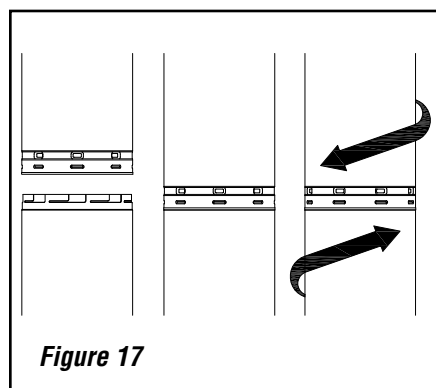

Figure 17
8" DV Lock (8DVL) direct-vent system components are unitized concentric pipe components featuring positive twist lock connections (*see Figure 17*).
Push the pipe sections completely together, then twist lock one section clockwise approximately one-quarter turn until the two sections are fully locked (*see Figure 17*). Indentations on the female end of black painted pipe and fittings will not be visible unless by examining the inside of the female ends.
Push the vent component against the previous section until it fully engages, then twist the component clockwise running the dimples down and along the incline channels until they seat at the end of the channels. **This seating position is indicated by the alignment of the indents into the entry slots as shown in Figure 17.**
F. Change vent direction to horizontal/inclined run—At transition from or to a horizontal/inclined run, install the 8DVL45 and 8DVL90 elbows in the same manner as the straight vent sections. Fully engage the inner and outer unitized pipes at the bottom of the elbow. Rotate the elbow in the desired direction. **NOTE: Three (3) holes are provided at the bottom of the elbows.** Secure the elbow in place with a minimum of two (2) self tapping screws. The top of the elbow will connect to straight lengths of 8" DV Lock pipe by twist-locking the pieces together. See **Figure 17 on Page 16** and **Figure 19**.
8" DV Lock direct-vent system components are unitized concentric pipe components featuring positive twist lock connection, (refer to **Figure 17 on Page 16**). All of the appliances covered in this document are fitted with collars having locking inclined channels. The dimpled end of the vent components fit over the appliance collar to create the positive twist lock connection.
C. Frame ceiling opening—If the vertical route is to penetrate a ceiling, use plumb line to locate the center above the appliance. Cut and/or frame an opening, 13" x 13" (330 mm x 330 mm) inside dimensions, about this center (refer to **Figure 17 on Page 16**).
Push the pipe sections completely together, then twist lock one section clockwise approximately one-quarter turn until the two sections are fully locked (see **Figure 17**). Indentations on the female end of black painted pipe and fittings will not be visible unless by examining the inside of the female ends.
H. Change vent direction—At transition from or to a horizontal/inclined run, install the **8DVL E45** and **8DVL E90** elbows in the same manner as the straight vent sections. The elbows feature a twist section to allow them to be routed about the center axis of their initial collar section to align with the required direction of the next vent run element. **Twist elbow sections in a clockwise direction only so as to avoid the possibility of unlocking any of the previously connected vent sections (see Figure 17 on Page 18).**